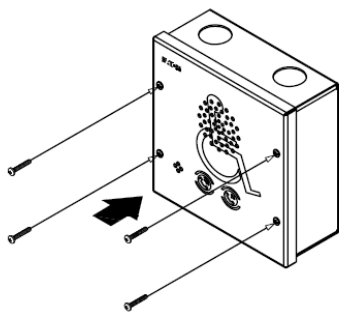

Figure 1. Remove face plate screws
2. Remove the four (4) 6.3 x 10 mm Phillips head screws from the Call Station face plate as shown in Figure 1.